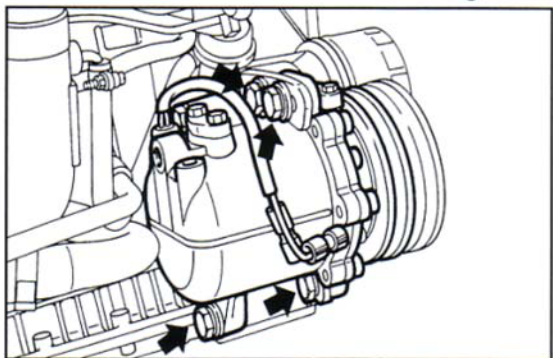

Fig. 10 ▼
- unscrew the screws and remove the air conditioner compressor (Fig. 10).